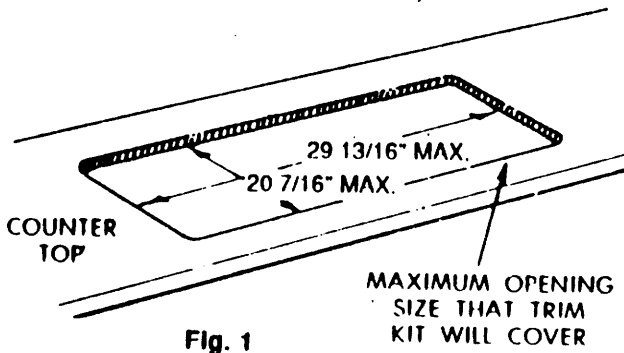

Fig. 1
- 1 (a). Measure the width of the present opening minus 28 1/2" (See figure 1).
- 2 (a). Measure the depth of the present opening minus 19 1/2" (See fig. 1).